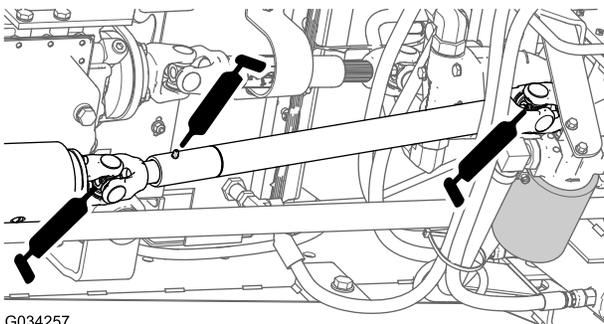

Figure 40
- Arbre de transmission (3) (Figure 40)